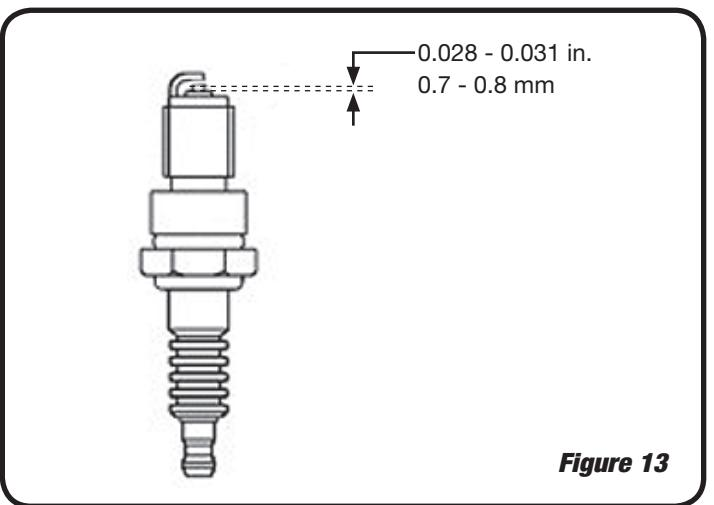

Figure 13
4. Measure the spark plug gap with a feeler gauge. Adjust plug gap as required by bending electrode. See Figure 13